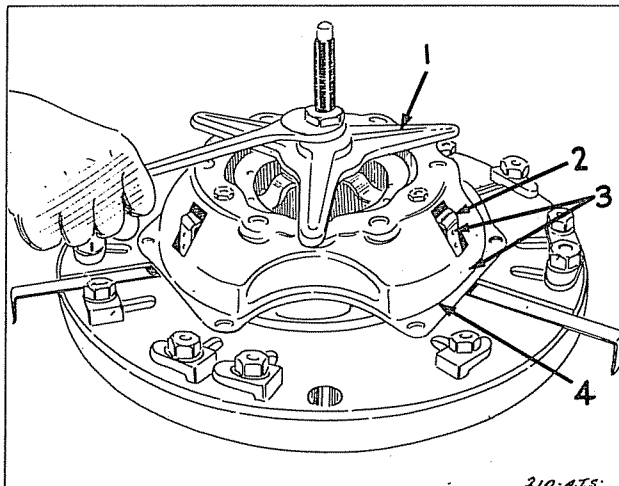

Fig. 7—Clutch Cover and Pressure Plate Assembly in Fixture C-585-B.
- (1) Mark the cover and pressure plate with a prick punch so that the parts are assembled in their original position to maintain balance.
- (2) Mount the clutch assembly in the clutch fixture (Figure 7).
- (3) Instal the three legged spider over the centre screw so that it rests directly against the top of the clutch cover.
- (4) Instal the plain thrust washer and the hexagonal compression nut, compress the springs by turning down the compression nut (Figure 7).
- (5) With the spring under compression, remove the screws, washers and shims, and the clutch release lever pad. Slowly release the spring pressure by unscrewing the compression nut.
- (6) The cover may then be lifted off. All parts will be available for inspection.
Correct operation of the clutch is dependent upon accurate adjustment of the release levers. This adjustment cannot be made correctly by setting the levers parallel to the face of the release bearing with the clutch assembled to the flywheel. The most accurate method is to adjust the levers in a special adjusting fixture, see Figure 7.